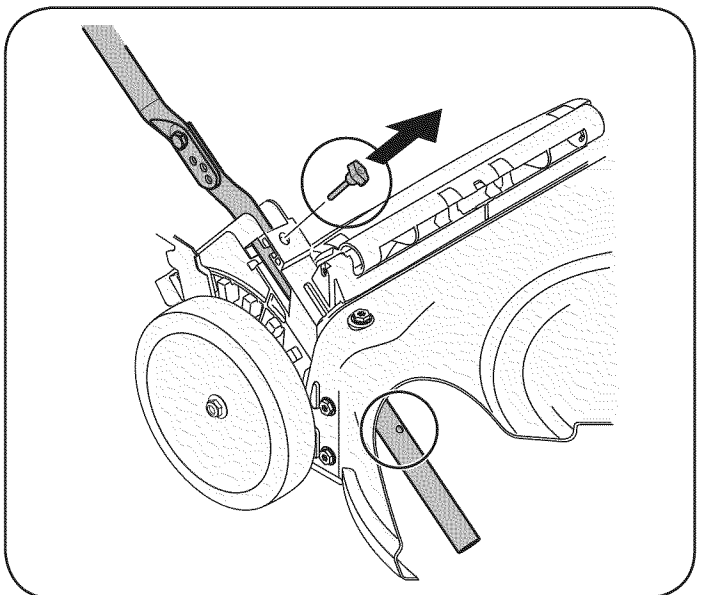
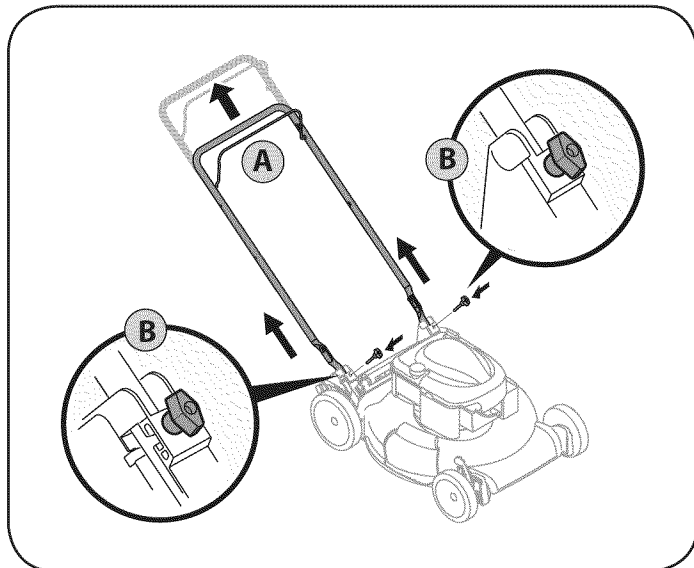

Figure 3
Figure 4
2. Remove T-bolts from the handle brackets as shown in Figure 3.
- A. Pull upward on the handle until holes in lower handle (shown in Figure 3 deck cutaway) line up with holes in handle bracket. See Figure 4.
- B. Insert the T-bolts removed in step earlier through the handle brackets and lower handle and tighten securely to secure the handle in place. See Figure 4.